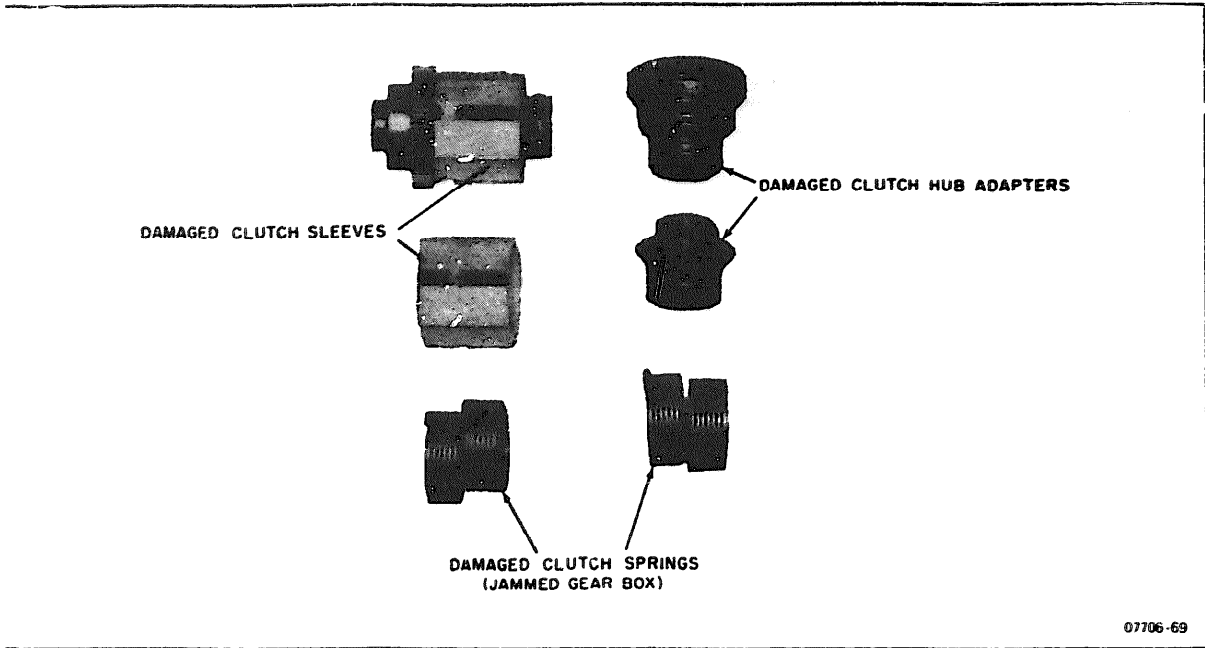
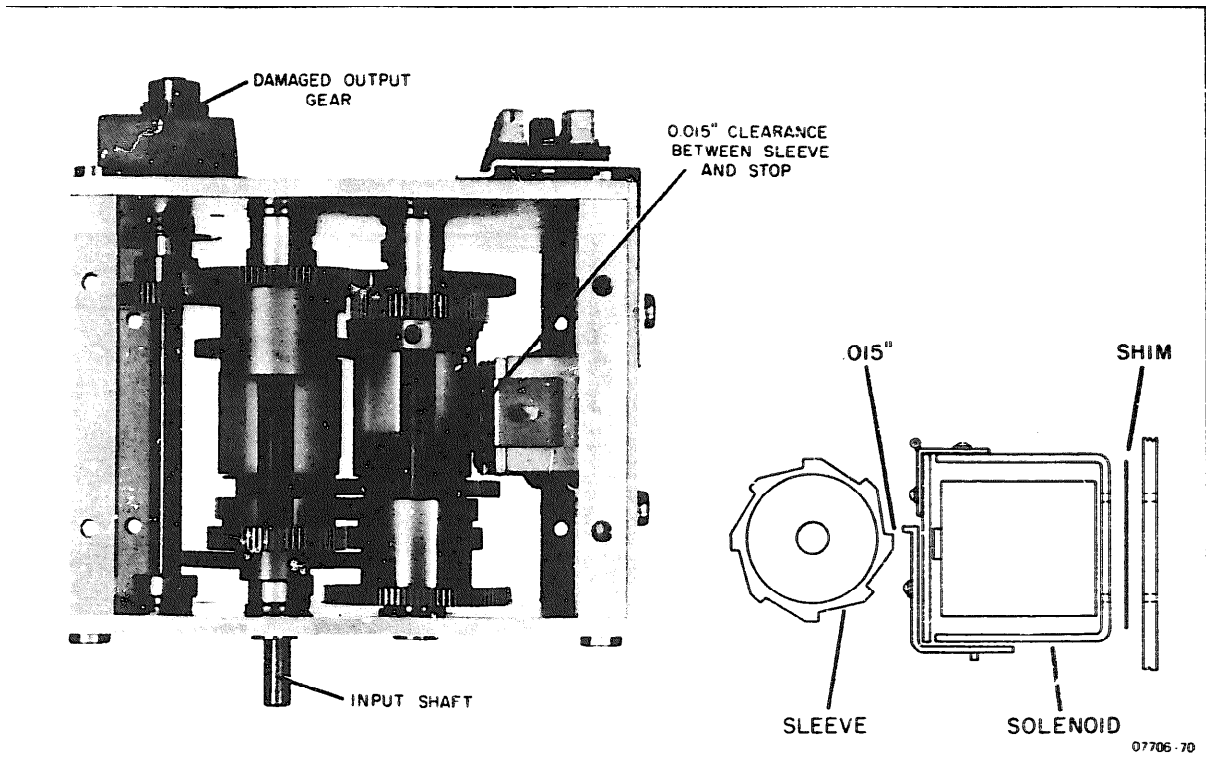

Figure 5-17. Excessive Wear on Clutch and Hub Assembly
Figure 5-18. Gear Box Assembled, Clearance Between Solenoid And Clutch Sleeve Indicated
b. Figure 5-17 illustrates excessive wear of the clutch and hub assemblies. These parts will wear when the gear box has been run for long periods of time without a maintenance check, wrong methods of packing the clutches, or if the wrong grease is used. Trouble will also be evident if the recording paper is allowed to double around the drive roll of the recorder and jam the drive roll and gear box to a sudden stop. If paper jamming is corrected but the gear box tends to run roughly or chatters, turn the power off and locate the damaged part immediately. Damaged clutch sleeves result when there is not enough clearance between the clutch sleeve and the solenoid stop (see Figure 5-18). Clearance procedures are given in paragraph 5 - 85.
d. Output gears on the outer side of the gear box plate should be inspected for damage (see Figure 5-18). The output gear should be replaced if worn since it drives the drive roll through five idlers. A damaged output gear can result in damaged idler gears, drive roll gear and/or the gear box itself.
5-84. ASSEMBLING SOLENOID PLATES TO GEAR BOX. Remove the gear box using procedures described in paragraph 5-64. Install one solenoid plate to gear box first by attaching plate with four No. 10 sems screws. Attach leads to 24-volt source and check for 0.015 in. clearance between solenoid stop and clutch sleeve crease (see Figure 5-18). If the clearance is insufficient, shims are available on order in three sizes (0.003, 0.005 and 0.010 in.) **to correctly** adjust the stop distance **to the sleeve**, see **Figure 5-13(d)**. Both solenoids must be **checked**. **Use the same procedure to install and check the other solenoid plate and solenoids.**